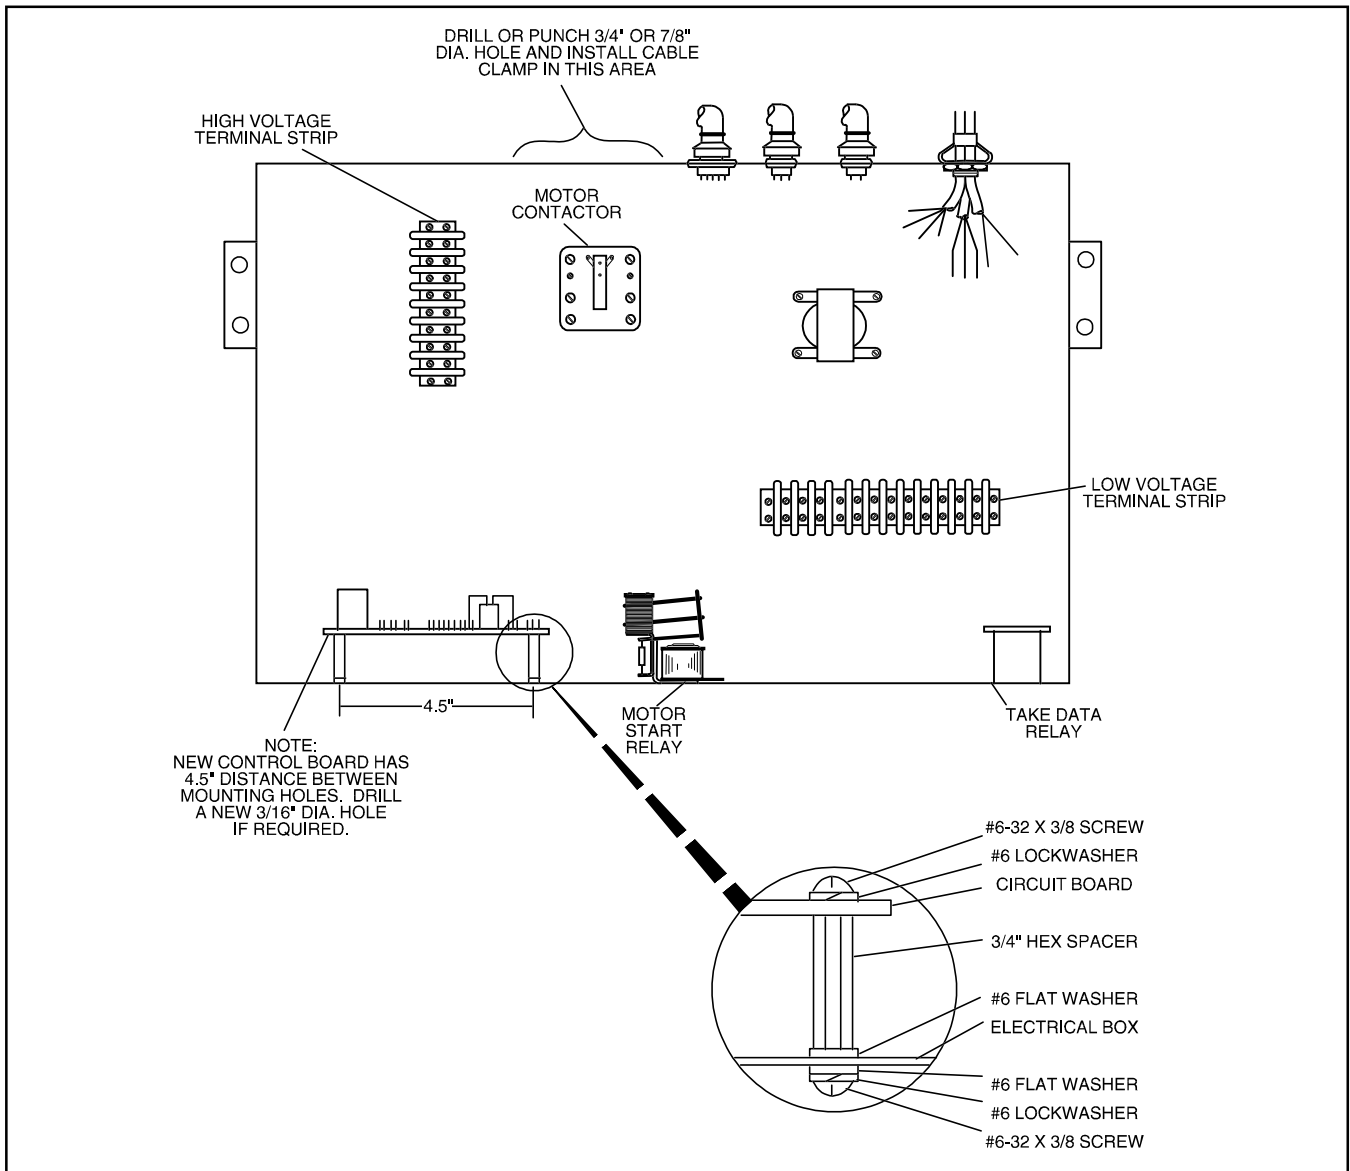

Figure 3. Control Board Mounting Diagram
microswitch, Rake Up/Trigger microswitch, etc. Locate an area on top of the electrical box above the motor contactor with proper clearance. (See Figure 3). Center punch this location. Place a cloth inside the box to keep the metal drilling shavings off the electrical components. Drill the 3/4" or 7/8" diameter hole or use a Greenlee knockout punch and fasten the supplied cable (Romex) clamp through the hole.
5. Screw the new control board to the electrical box with supplied hardware as shown in Figure 3.